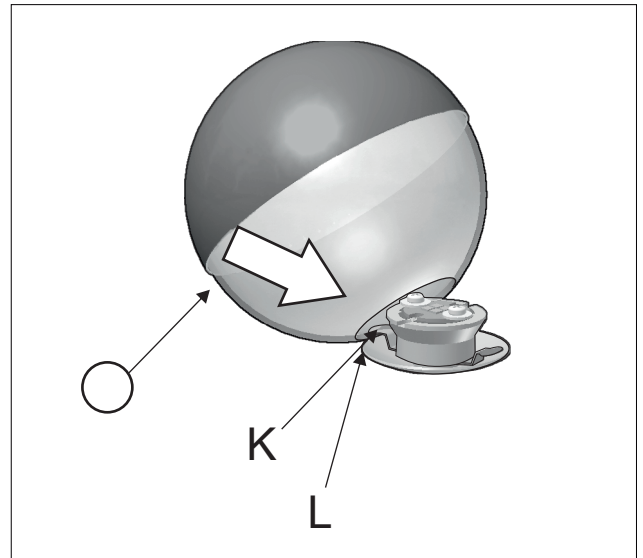

Figure 8
8- Incline the screen (H) about 45° and insert it into one of the extremes of the clip (K) of the LED and the base of the screen (L). Figure 8.